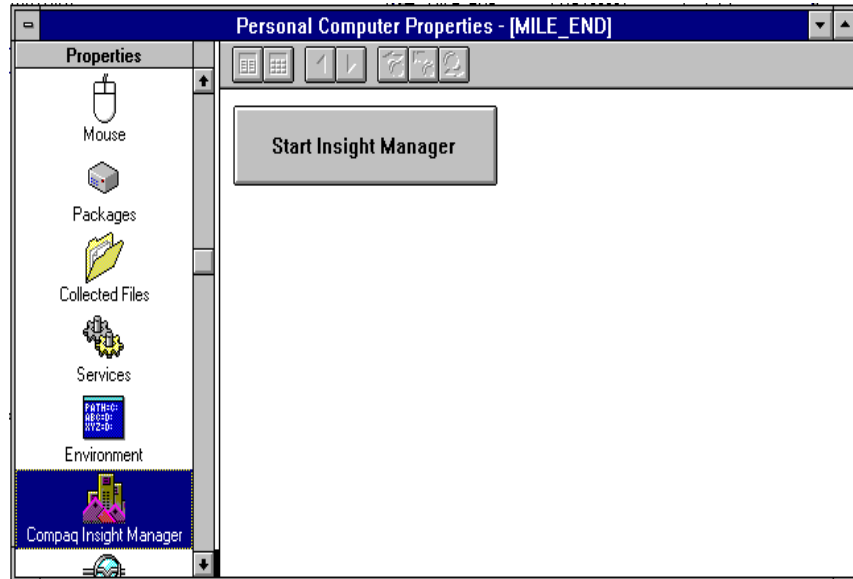

Figure 3-1. Selecting the Compaq Insight Manager icon
3. Scroll through the list of icons until you see the Compaq Insight Manager icon and select the *Compaq Insight Manager* icon as shown in Figure 3.1.
For example in Figure 3-1, MILE\_END is being viewed from Systems Management Server so the launch button causes Insight Manager to show the server view for MILE\_END. This function bypasses the server list in Insight Manager.